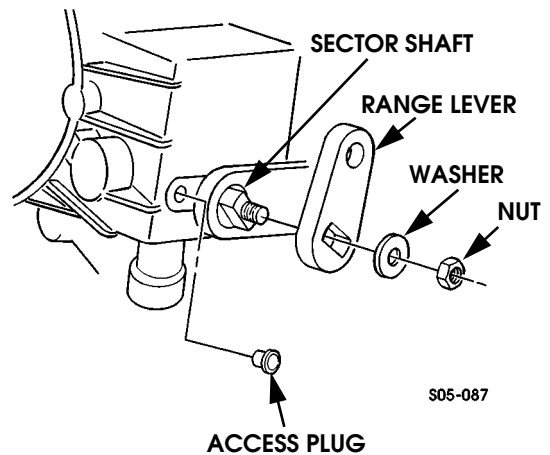

Figure 5-96: Range Lever Mounting
15. Remove range lever nut, washer and lever from sector shaft (Figure 5-96).
16. Remove access plug for low range fork lock pin (Figure 5-96).